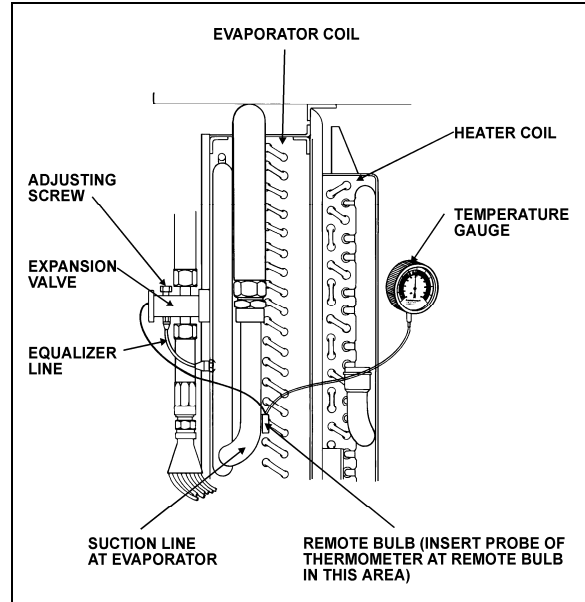

FIGURE 31: SUPERHEAT ADJUST. INSTALLATION 22046
The easiest method of adjusting the superheat is to unscrew completely the main evaporator expansion valve adjusting screw, and screw in 13 turns clockwise for 134A (Fig. 31). If this method does not provide an accurate superheat, the following procedure should be followed:
3. Install a remote reading thermometer to the evaporator outlet line near the existing remote bulb (Fig. 31).